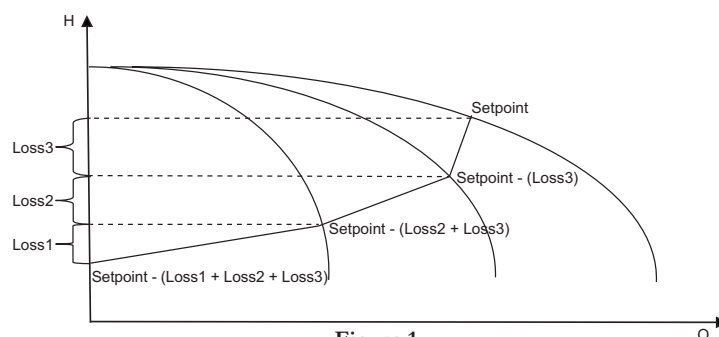

Figure 1
This energy savings feature allows user to compensate for the friction losses of system. As flow increases, the pressure losses due to friction in the system will increase accordingly. This feature will allow controller to modify the setpoint in real time based on the speed changes to compensate system friction loss. The controller will log the last 40 real time setpoint changes. Figure 1 shows how this function works with setup parameters using an example of a three pump system.
**Note:** “Setpoint” In figure 1 is the maximum control setpoint, will correspond to the controlling setpoint from the SP1 value. Refer to section 5 for SP1 value selection.